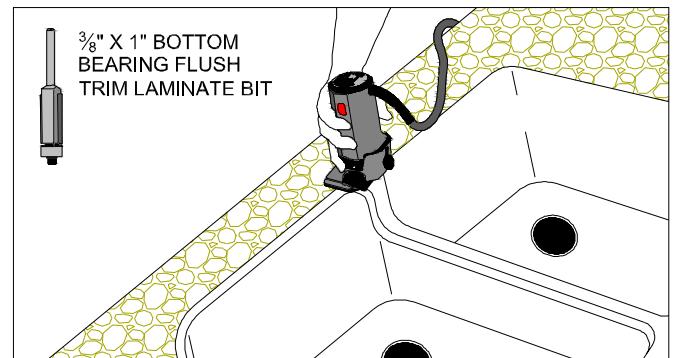

Figure 17C
- Adjust the laminate tilt-base trim router with a $\frac{3}{8}$ " bottom bearing flush trim bit. (FIG. 17C)